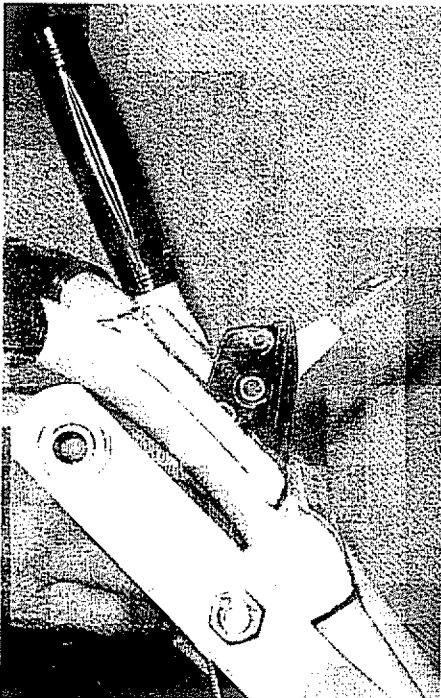

FIGURE 10
2. See Fig. 10: Push entire knob and control body through the panel slot from the back as shown